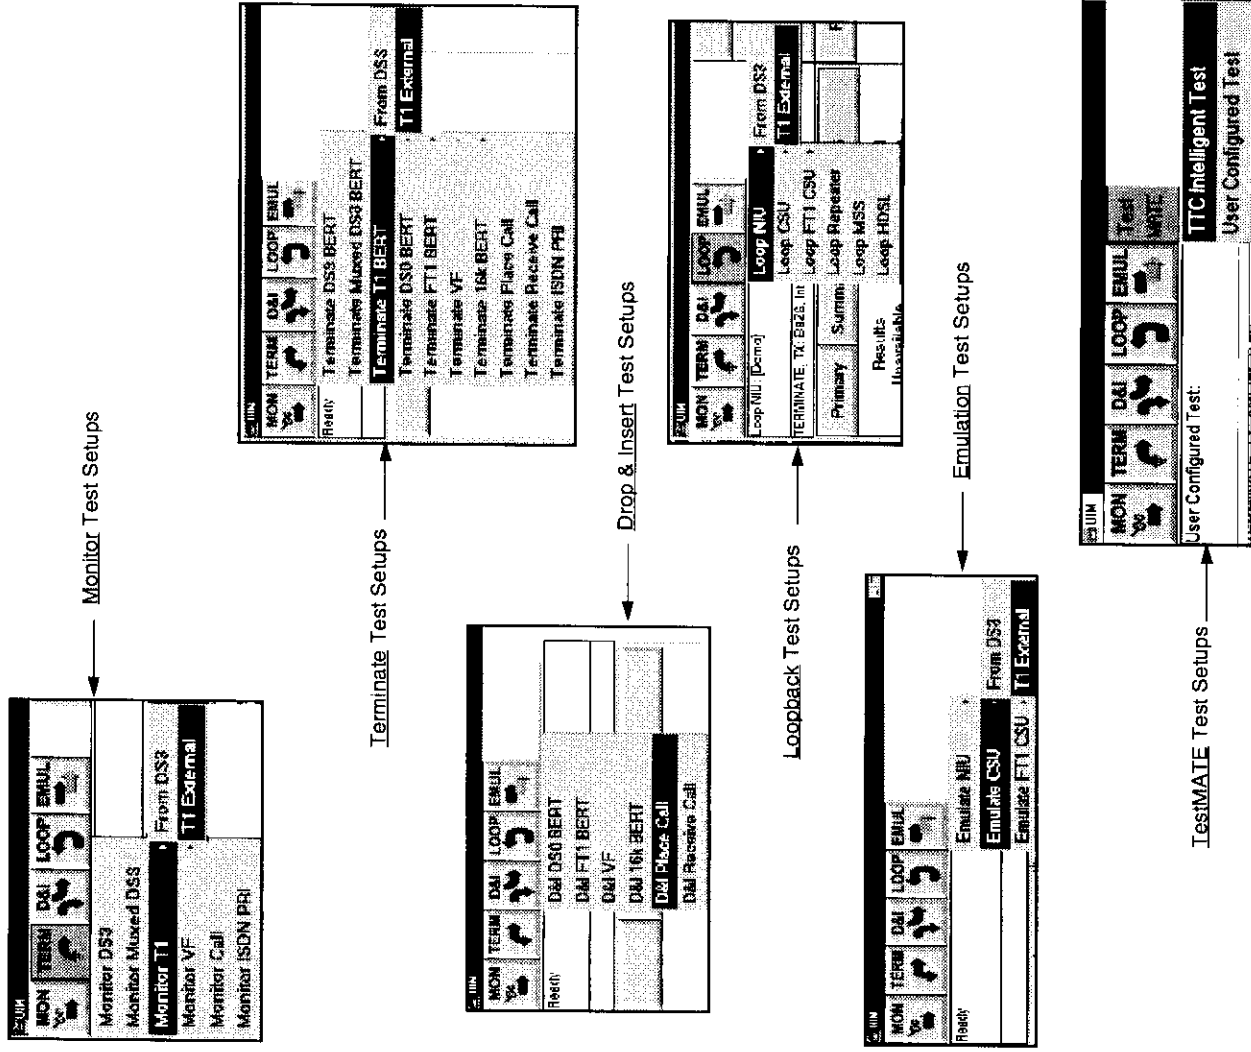

Figure 2-2. Application Icons with Pull-Down Lists
1. **Application Icon Selection**— This area displays **MON** (Monitor), **TERM** (Terminate), **D&I** (Drop and Insert), **LOOP** (Loopback), **EMUL** (Emulate), and **TestMATE** (if the TestMATE Option is installed) icons used to select a test group and specific test applications within that group. Refer to Figure 2-2 to view selections (represented by their respective pull-down menus) of those application icons for test setups.